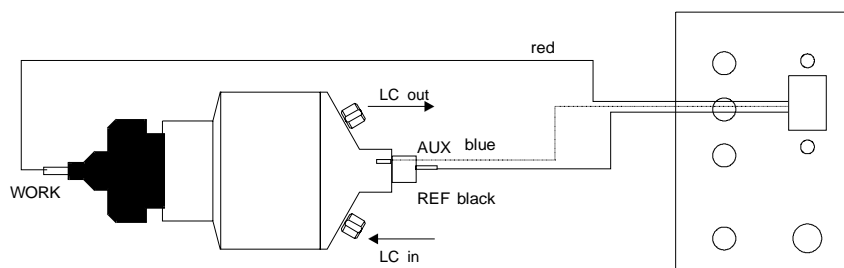

Fig. 6. Flow cell and cell cable (for DECADE II™). WORK, AUX and REF are connected using the red, blue and black lead of the cell cable, respectively.
6. Place the cell under an angle of 45° in the DECADE II™ controller with the outlet facing the top side prevent entrapment of bubbles. Connect the cell cable as illustrated in Fig. 6.